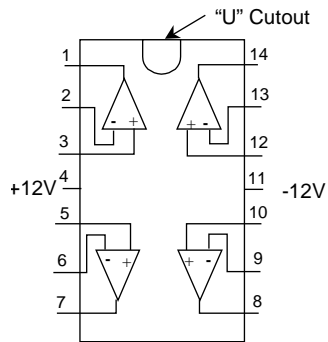
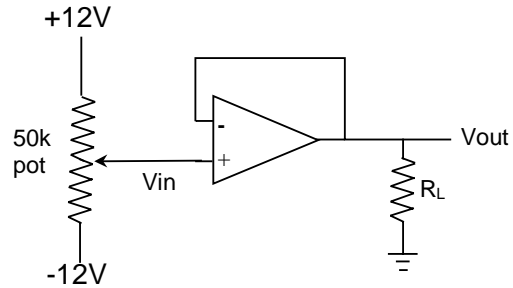
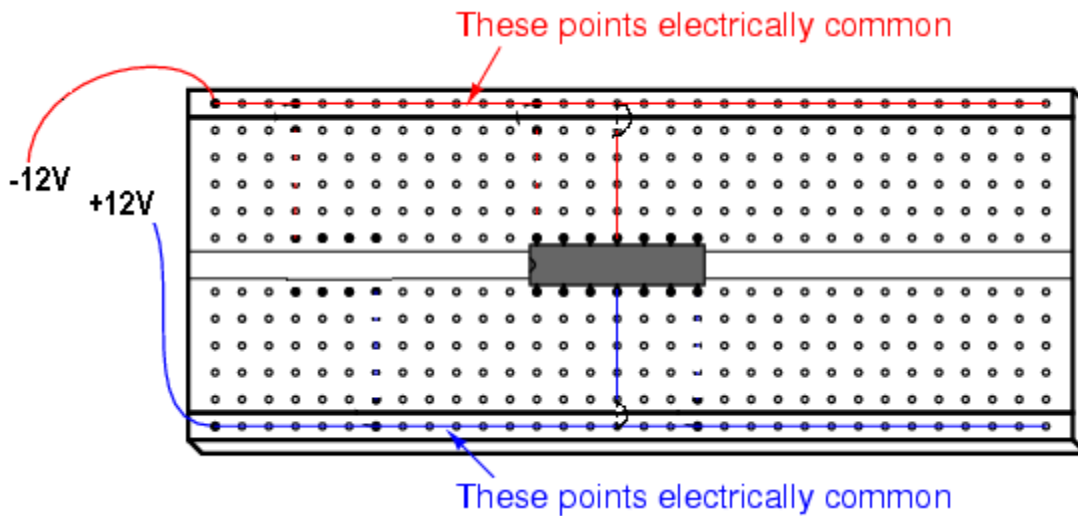

Figure 1 – LM324 Quad Op-Amp Chip
Figure 2 – Voltage Follower Circuit.
Figure 3 – Suggested Layout of Circuit on Solderless Breadboard
In Figure 2, an op amp is used in a voltage follower circuit. In this circuit, the op-amp attempts to adjust the output voltage (V_{out}) so that it "follows" (makes it equal to) V_{in} . This circuit is also called a buffer or isolation amplifier because the output current does not affect the input voltage (V_{in}). The load resistance (R_L) draws current from the op-
Construct the circuit shown in Figure 2 (suggested layout is in Figure 3). We will use the LM324 chip (Figure 1), which has 4 op-amps built on the chip. Power must be supplied at pin 4 (positive voltage) and pin 11 (negative voltage), else the chip will burn out.
- Q2** There are limitations in the buffer circuit in Figure 2. That is, there are conditions when the op-amp would not be able to make $V_{out} = V_{in}$. Discuss 2 limitations.